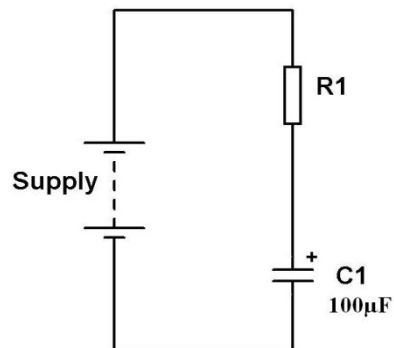

Figure 7
- d) A student needs a timing circuit for a project. **Figure 7** below shows the electronic circuit involved for timing using a resistor and a capacitor connected in series.
ii) What happens to the time if the value of the capacitor C in **Figure 7** is doubled?